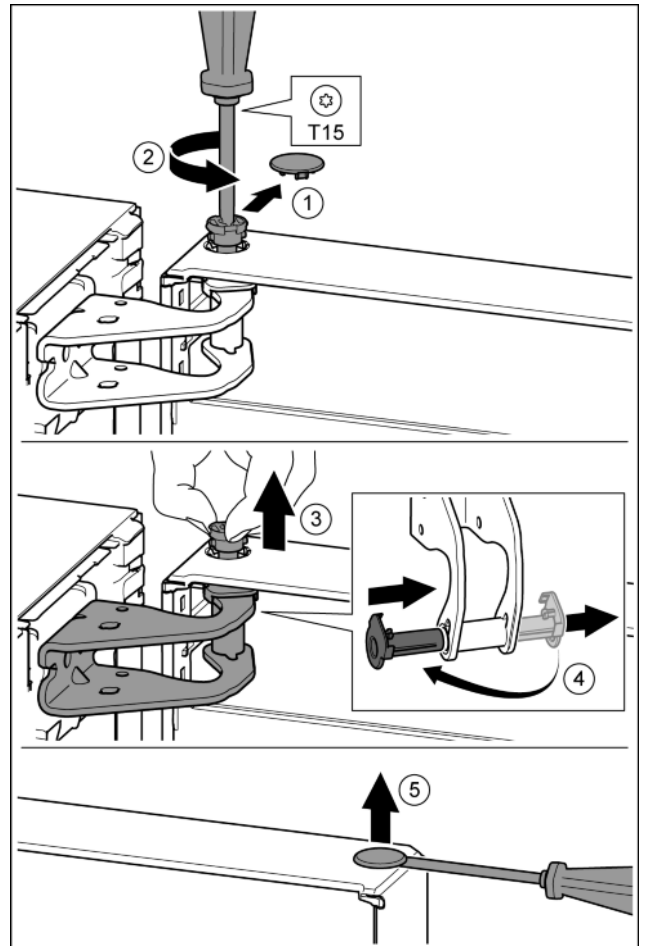

Fig. 9
- ▶ Carefully remove the safety cover. Fig. 9 (1)
- ▶ Undo the bolt a little with a T15 screwdriver. Fig. 9 (2)
- ▶ Hold the door and remove pins with your fingers. Fig. 9 (3)
- ▶ Pull the bearing bush out of the guide. Insert from the other side and click into place. Fig. 9 (4)